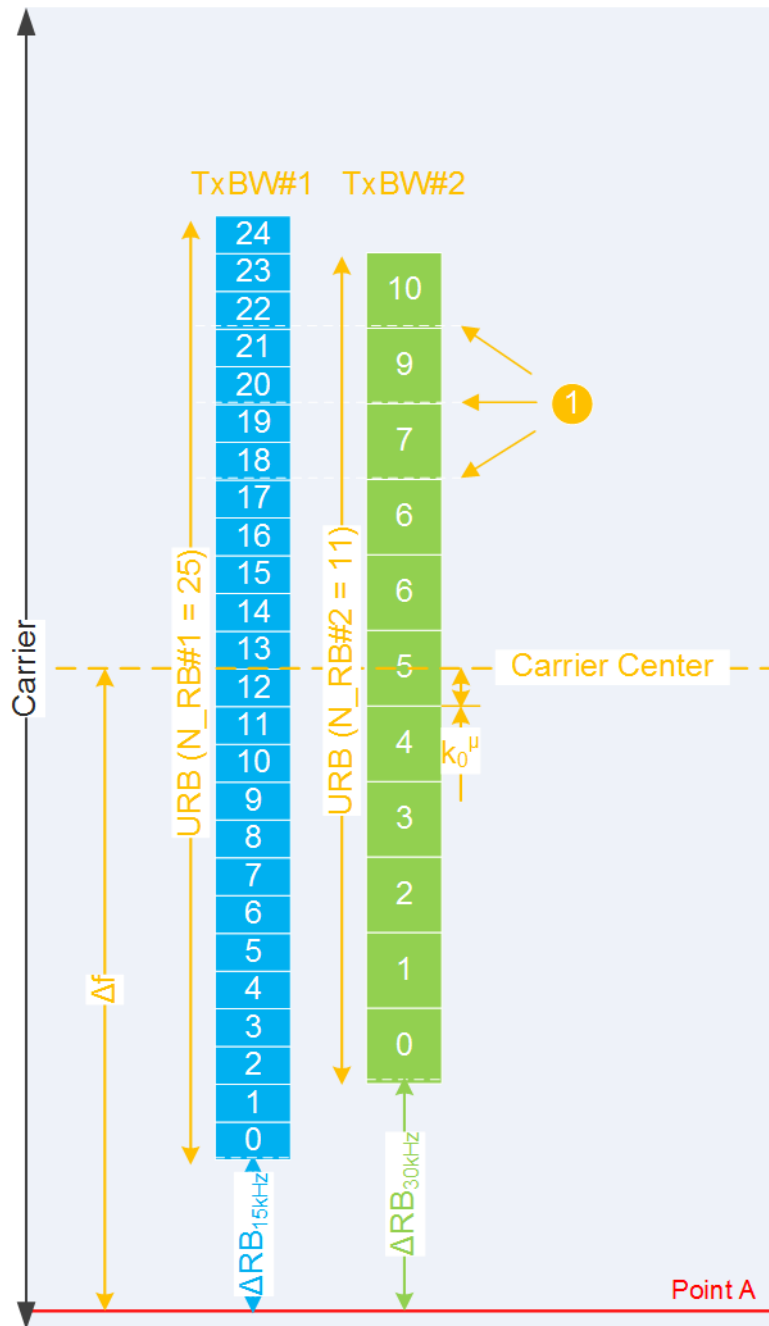
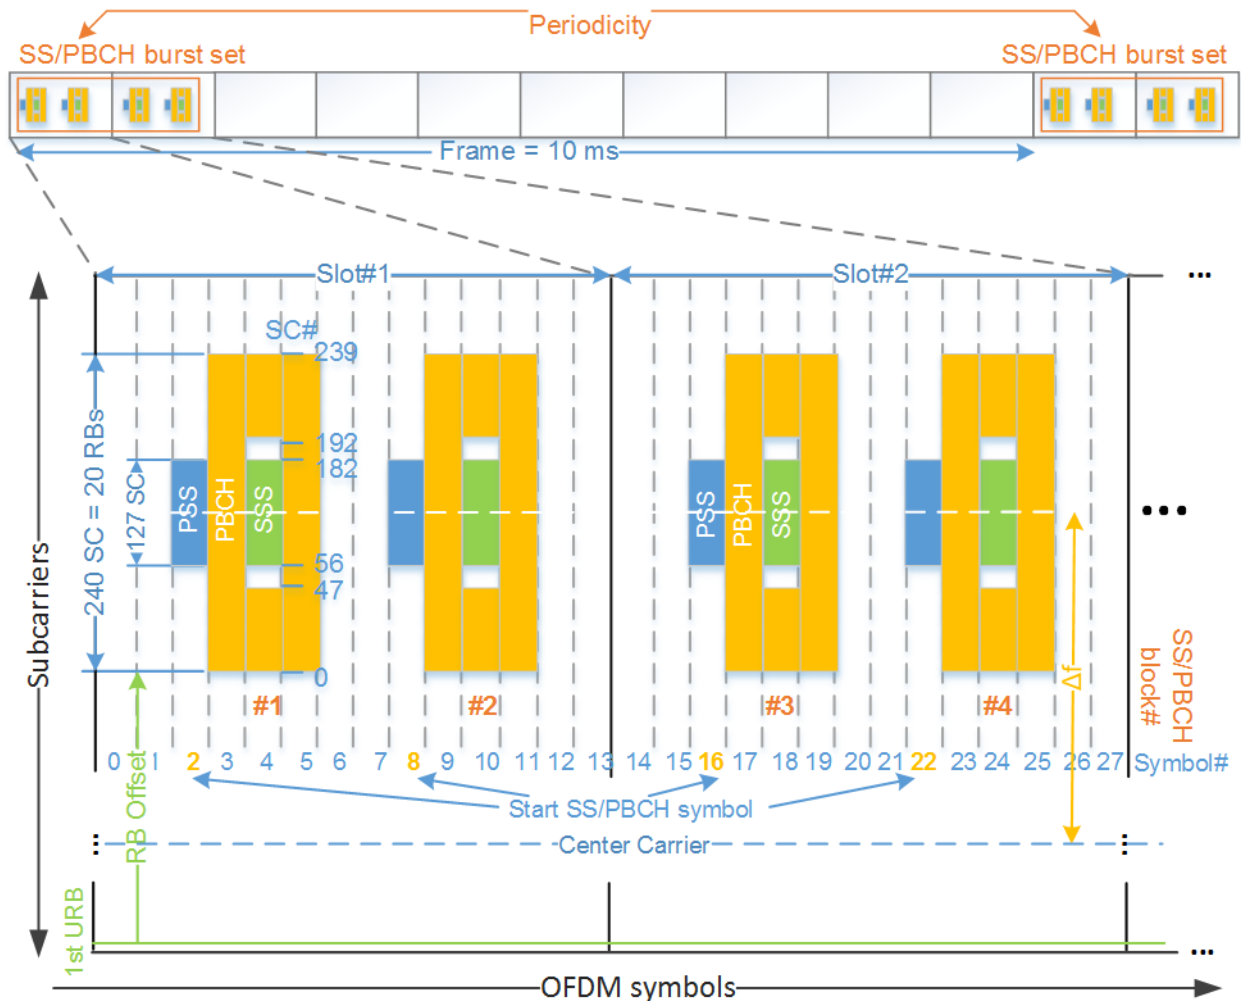

Figure 2-2: Transmission bandwidth (example)
Figure 2-3: Location of synchronization signals in a succession of several slots (Case A - 15 kHz SCS, $f < 3$ GHz)
See Figure 2-2 and Figure 2-3.
- 1st URB = First usable resource block (URB), that is the first RB within the TxBW, see Figure 2-2
The SSs are allocated on predefined symbols but the allocated resource blocks and subcarriers are user-defined. The TS 38.213 specifies the number of and the start of the symbols depending on the used SCS and frequency range, see Figure 2-3. In 3GPP, these different start positions of the SS/PBCH blocks are referred as case A to case E.